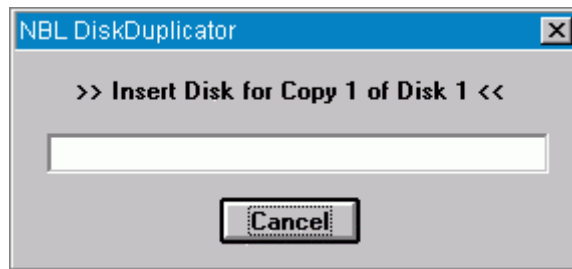

Figure 2
2. Double click on the Firmware Upgrade Executable file which was stored locally. The text box shown in **Figure 2** will briefly flash on the display.